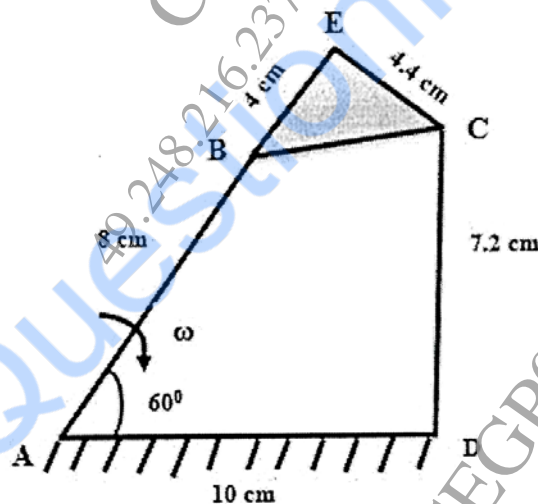

Fig1. Configuration diagram
- b) The dimensions of four bar chain mechanism is shown in Fig 1. in which the link AD is fixed and the crank AB rotates at uniform speed of 240 r.p.m. in clockwise direction. When the crank is at  $60^\circ$  with the horizontal find the angular velocity of links BC and CD and also find the angular velocity of point E of the structure BEC. [13]